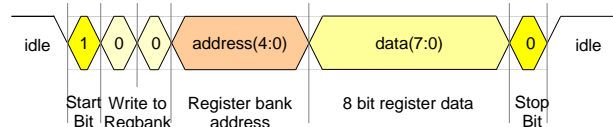

Figure 19: 1W-Interface register bank write sequence
Figure 19 describes the write sequence to the register bank, which uses the same protocol as the 2W-Interface. On an idle wire, a write sequence is initiated by writing a start bit (1) followed by the write command (00) followed by the address and register data. At the end of the sequence, a stop-bit (0) is required.